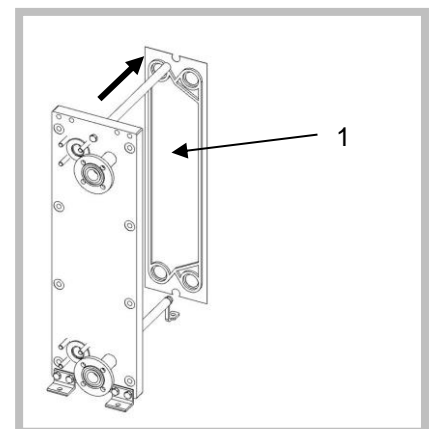

Figure 35
2. A second person should secure the heat exchanger plates against slippage. Push the heat exchanger plate [1] individually out of the support rod (Figure 35).